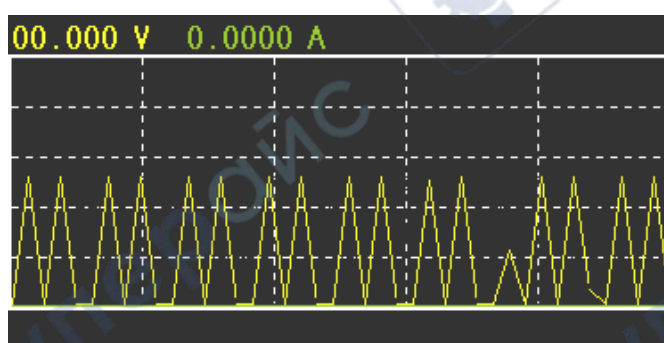

Figure 4-4
** Waveform: as shown in Figure 4-4, display the current sampled voltage and current values in the form of waveform